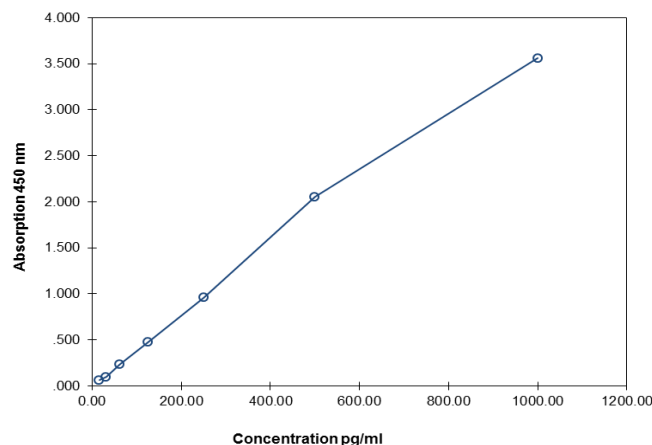

Fig. 8 Representative standard curve for human Ghrelin ELISA. human Ghrelin was diluted in serial 2-fold steps in Sample Diluent.
- A representative standard curve is shown in Figure 8.